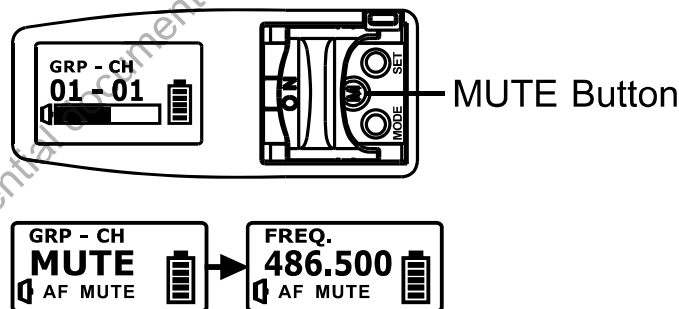

Fig. 17
- (1) ROM-ER → Channel wasn't programmed or internal data error.
- (2) ERROR1 → RF frequency targeting circuitry is failed.
- (3) NO----03 → The set frequency exceeds the upper band. The transmitter frequency will not be changed but it can be operated as long as the power switch is turned on again.
- (4) NO----04 → The set frequency exceeds the lower band. The transmitter frequency will not be changed but it can be operated as long as the power switch is turned on again.
(H) MUTE Button. Fig. 17:
- (1) Press MUTE button to enter MUTE status, the Audio Signal Level Bar ⑬ shows AF MUTE and blinks, and all operations and the ACT function are still workable.
- (2) Press MUTE button again to unmute. AF MUTE will be disabled automatically when power off.
- (3) MUTE button is only workable under MAN (Manual Setting) mode.